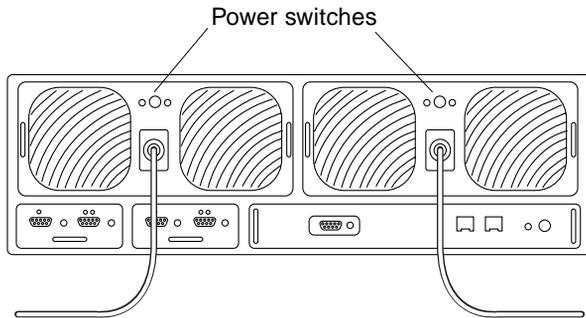

FIGURE 3-5 Power Switch Locations
4. Press the power switch on the power and cooling units on both disk trays to remove AC power (FIGURE 3-5).